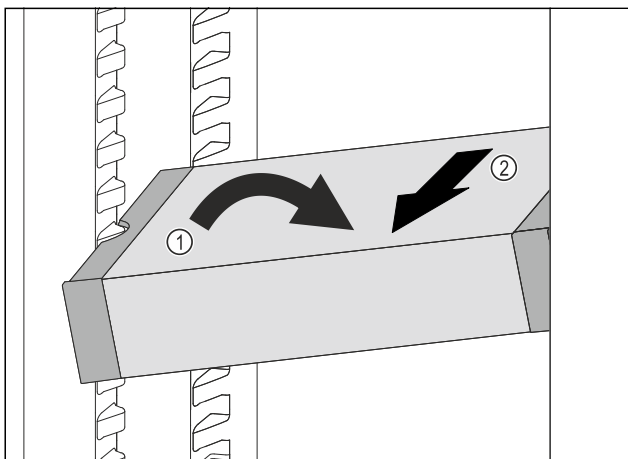

Fig. 69
- Set VarioSafe in refrigerator compartment at an angle. Fig. 69 (1)
- Take VarioSafe out to the front. Fig. 69 (2)